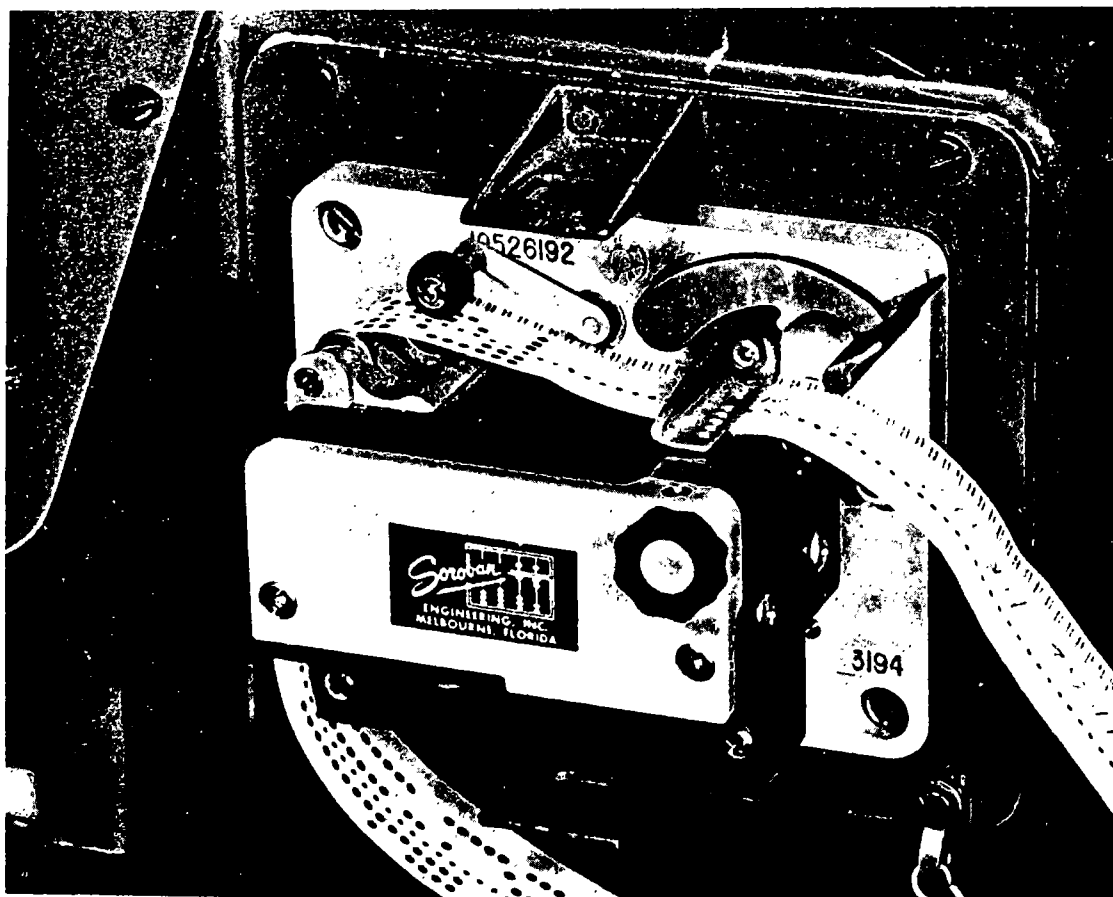

Figure 2-12. Meteorological message tape in reader.
(1) A slightly off-center line of small sprocket holes runs the length of the tape. Opposite each sprocket hole, there may be as many as three punched holes on the wide side of the tape and as many as two punched holes on the narrow side of the tape. Determine the front of the tape by placing the wide side toward the computer with the printing up. Open the armature clamp on the mechanical tape reader and place the tape under the clamp with the wide side—three holes—toward the computer. Insure that the message portion of the tape is to the left of the read head (fig 2-12).